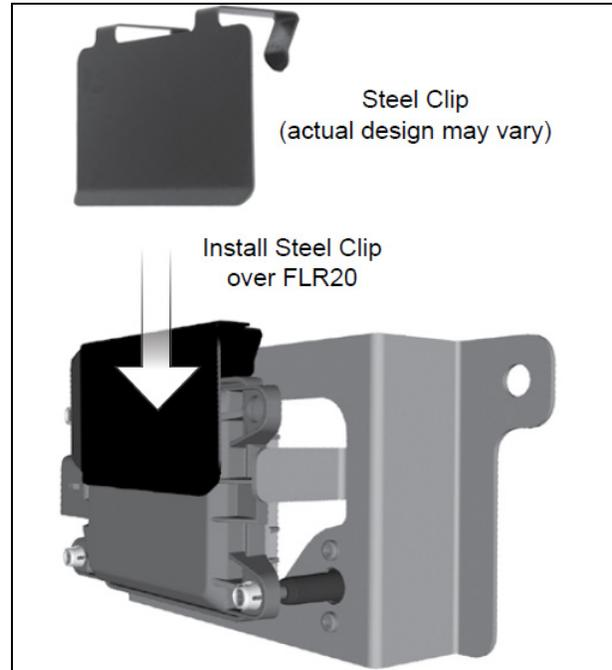

FIG.7
11. **X3 Series:** Install the steel clip (#688078) over the radar sensor (fig.7). Steel clip must lean flat on the radar sensor.